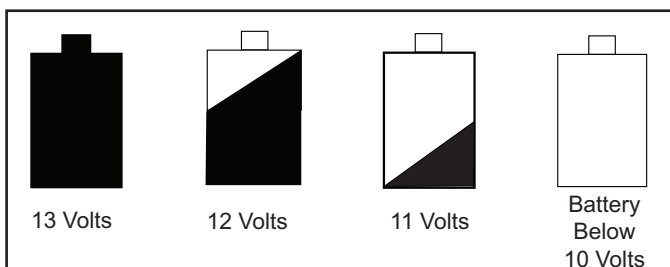

Figure 28.1
- If the battery charge falls below 10 volt it can no longer sustain the appliance operation and the appliance will shut down. **Figure 28.1.** You must disconnect and re-connect the battery to start it up again.